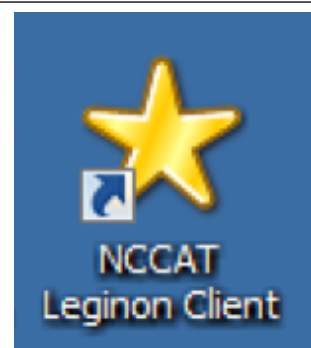

Figure 1. Click on the “NCCAT Leginon Client” icon on the **microscope computer** desktop before launching Leginon from the Leginon computer.
- 4.1.2.1. Startup the **NCCAT Leginon Client** by double clicking the icon on the desktop of microscope computer (Figure 1).